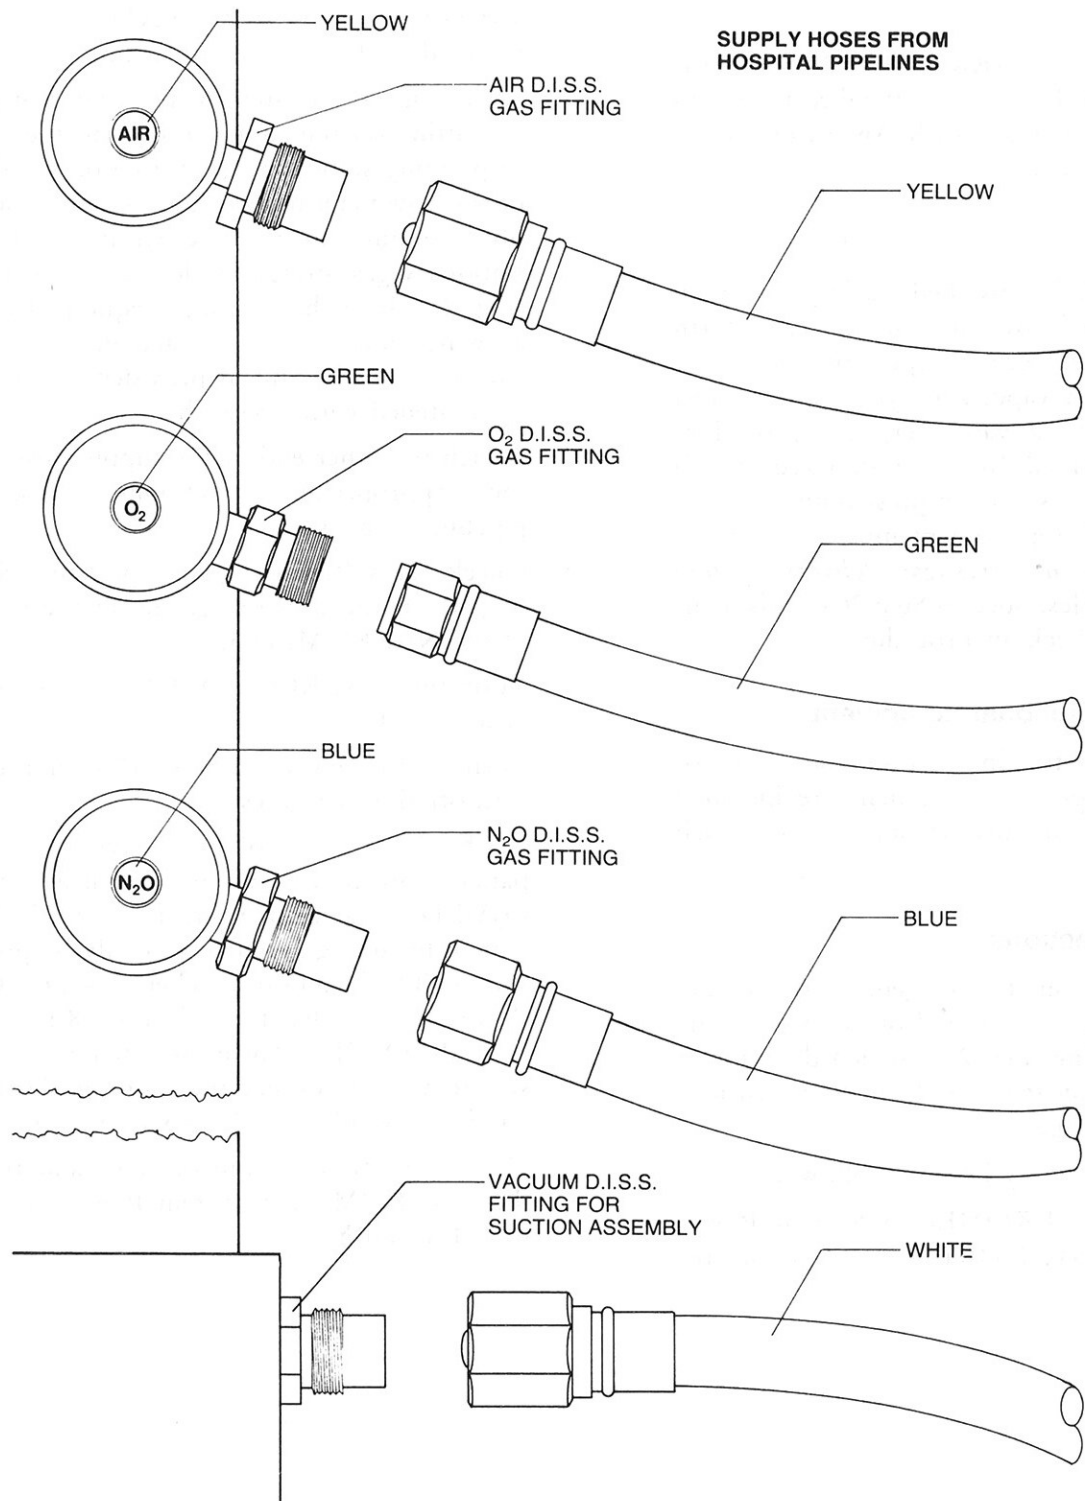

FIGURE 28: PIPELINE SUPPLY DISS FITTINGS AND SUPPLY HOSE CONNECTIONS (AIR OPTION)
Pipeline connections for oxygen, nitrous oxide, and air (optional) are located on the side of the flowmeter housing (Fig. 28). Standard Diameter Indexed Safety System (DISS) male gas fittings are used for each gas.
2. Axially insert the stem in the center of the gas fitting on the supply hose into the corresponding stationary gas fitting on the side of the flowmeter housing and screw the supply hose nut onto the external thread of the stationary gas fitting in a clockwise direction (Fig. 28). If the hose fitting is equipped with a wing nut, a snug hand-tight fit is adequate. If a hex nut is provided, it should be tightened with a wrench.